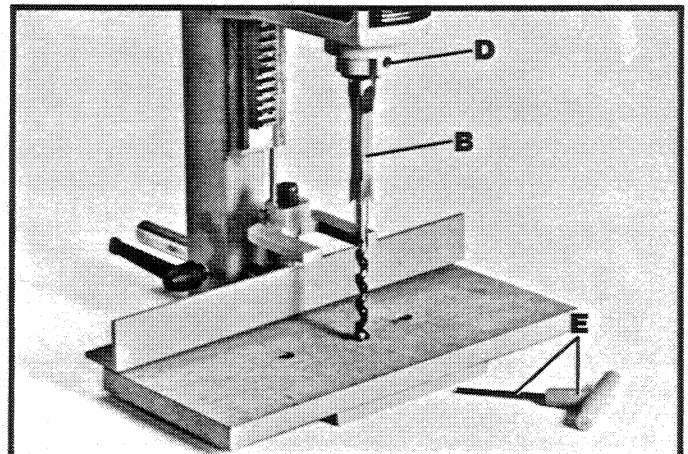

Fig. 13
3. Push chisel (B) Fig. 13, up as far as possible into the head and lower chisel approximately  $1/16$ ". Tighten screw (D) with wrench (E) to hold chisel in position.